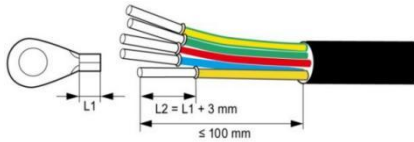

Fig 5.7 Crimp cable terminal
(1) Connect the five wires of the three-phase public power grid L1, L2, L3, N and PE to the AC connector interface according to Table 5-1, and connect the grounding wire to the grounding point on the outside of the chassis, and ensure that the conductors are crimped firmly without exposure , As shown in Fig 5.7;